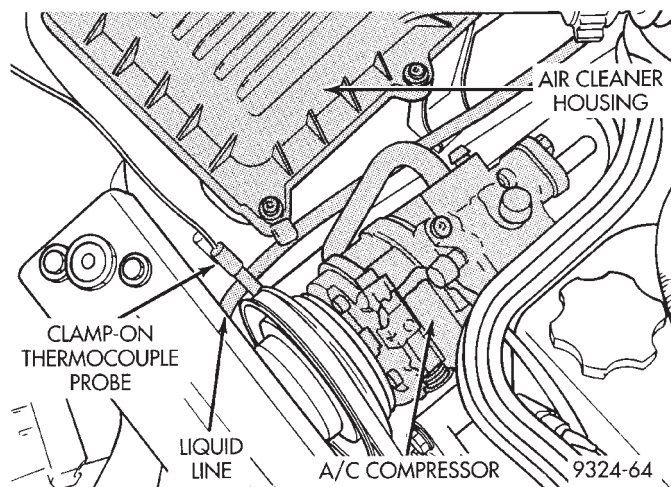

Fig. 17 Thermocouple Attachment Point
- With a scan tool (DRB) and a thermocouple (Fig. 17). Use the scan tool (DRB) diagnostic topic: Partial Charge Test. Refer to the proper Body Diagnostic Manual.
(1) Establish your preferred method of measuring compressor discharge pressure. Use a manifold gauge set or a scan tool.
(2) Attach a clamp-on thermocouple (P.S.E. 66-324-0014 or 80PK-1A) or equivalent to the liquid line (Fig. 17). It must be placed as close to the condenser outlet as possible to observe liquid line temperature. Refer to "Thermocouple Probe" in this section for more information on probe.
(3) The vehicle must be in the following modes: